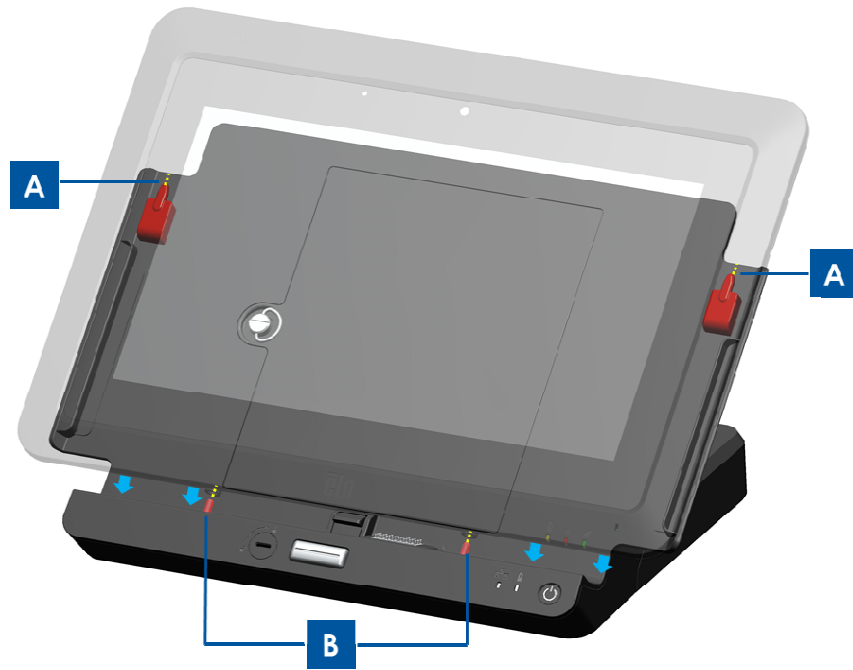

Figure 10. Mounting the tablet onto the docking station.
- Align the tablet with the docking station such that the top dock alignment pins align with top dock pin ports and the bottom dock alignment pins align with the bottom dock pin ports, as shown in Figure 10 below. For proper mounting of the tablet to the docking station, the Dock-Tablet connector will need to join with the Tablet-Dock connector, while the top and bottom dock alignment pins will need to slide into the top and bottom dock pin ports on the tablet, respectively.